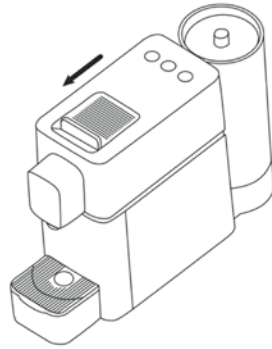

fig. 6
- 3 Closed the sliding door. (fig. 6)